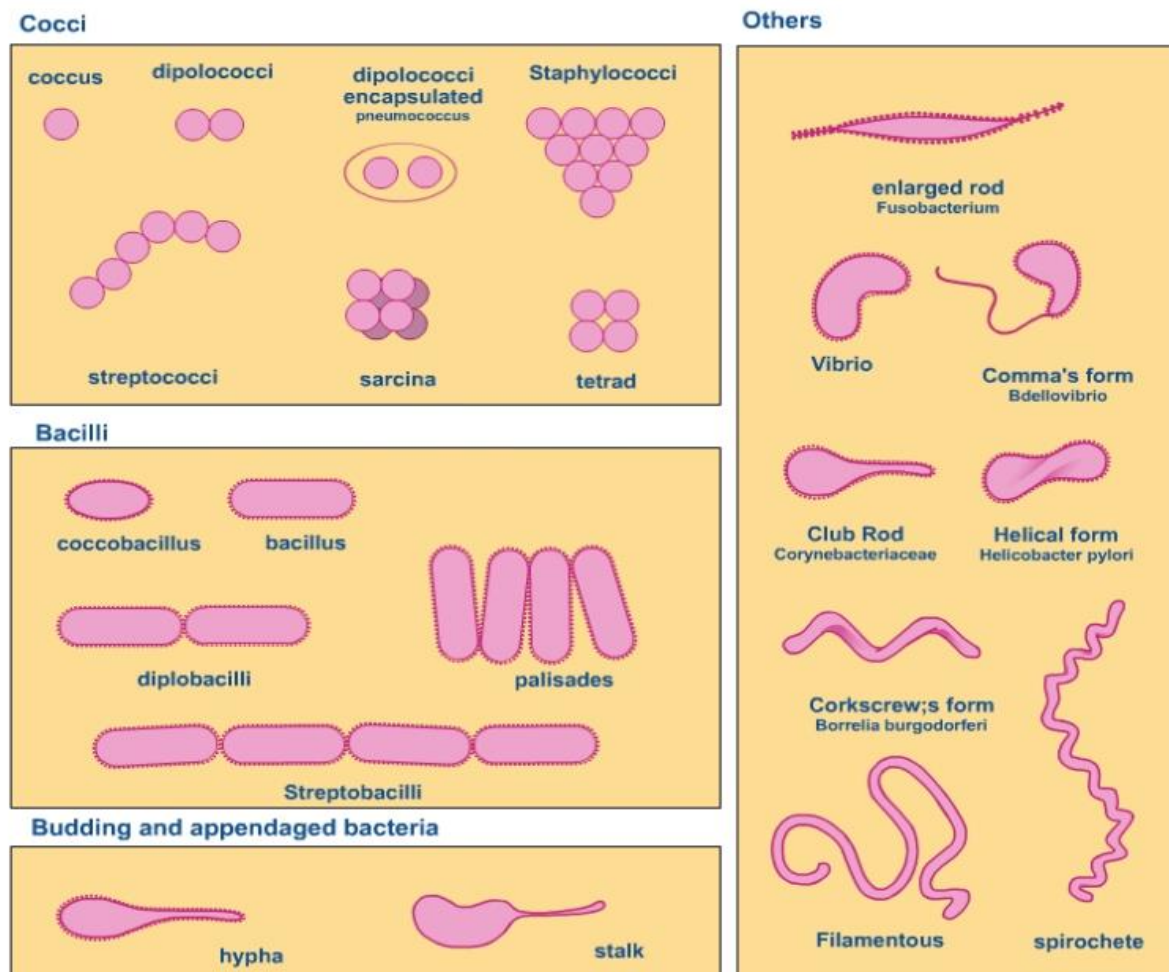

Fig1: Different bacterial morphology
- 8.** Record the shape, arrangement, and approximate size of the organisms.(see figure1).